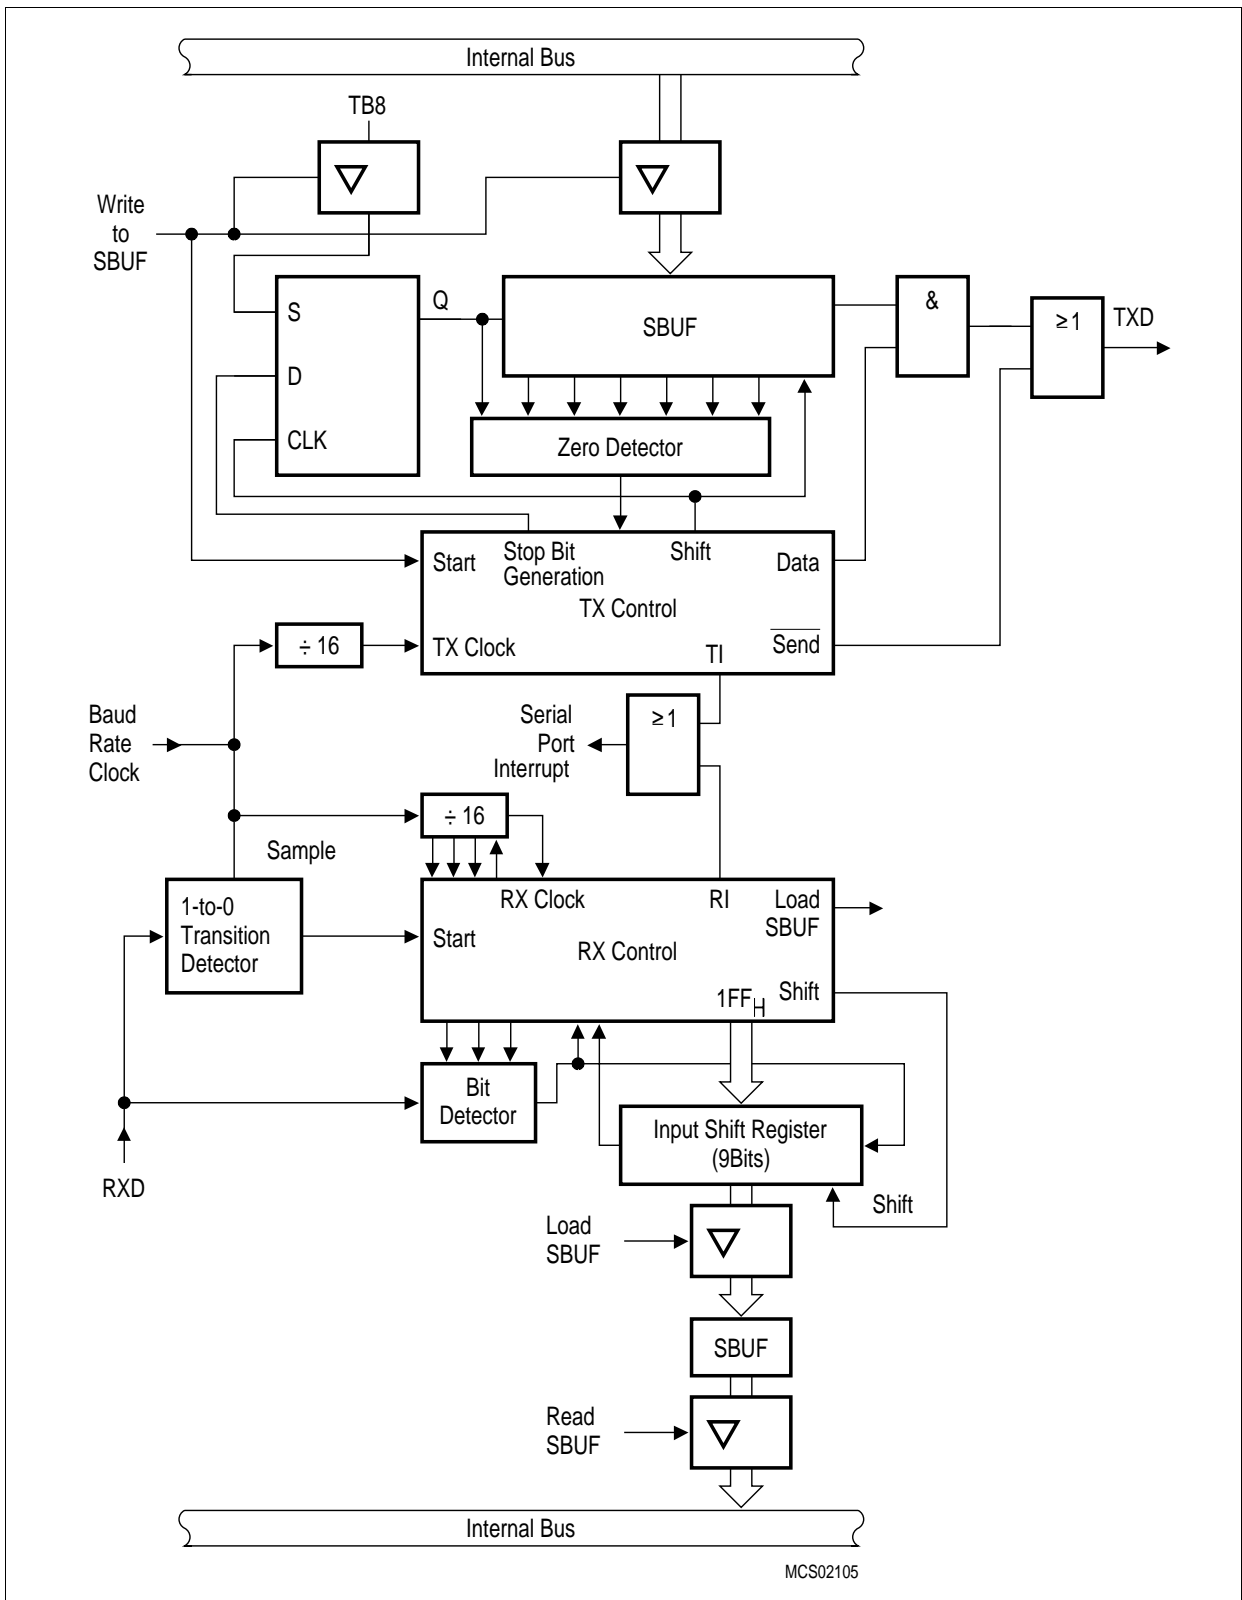
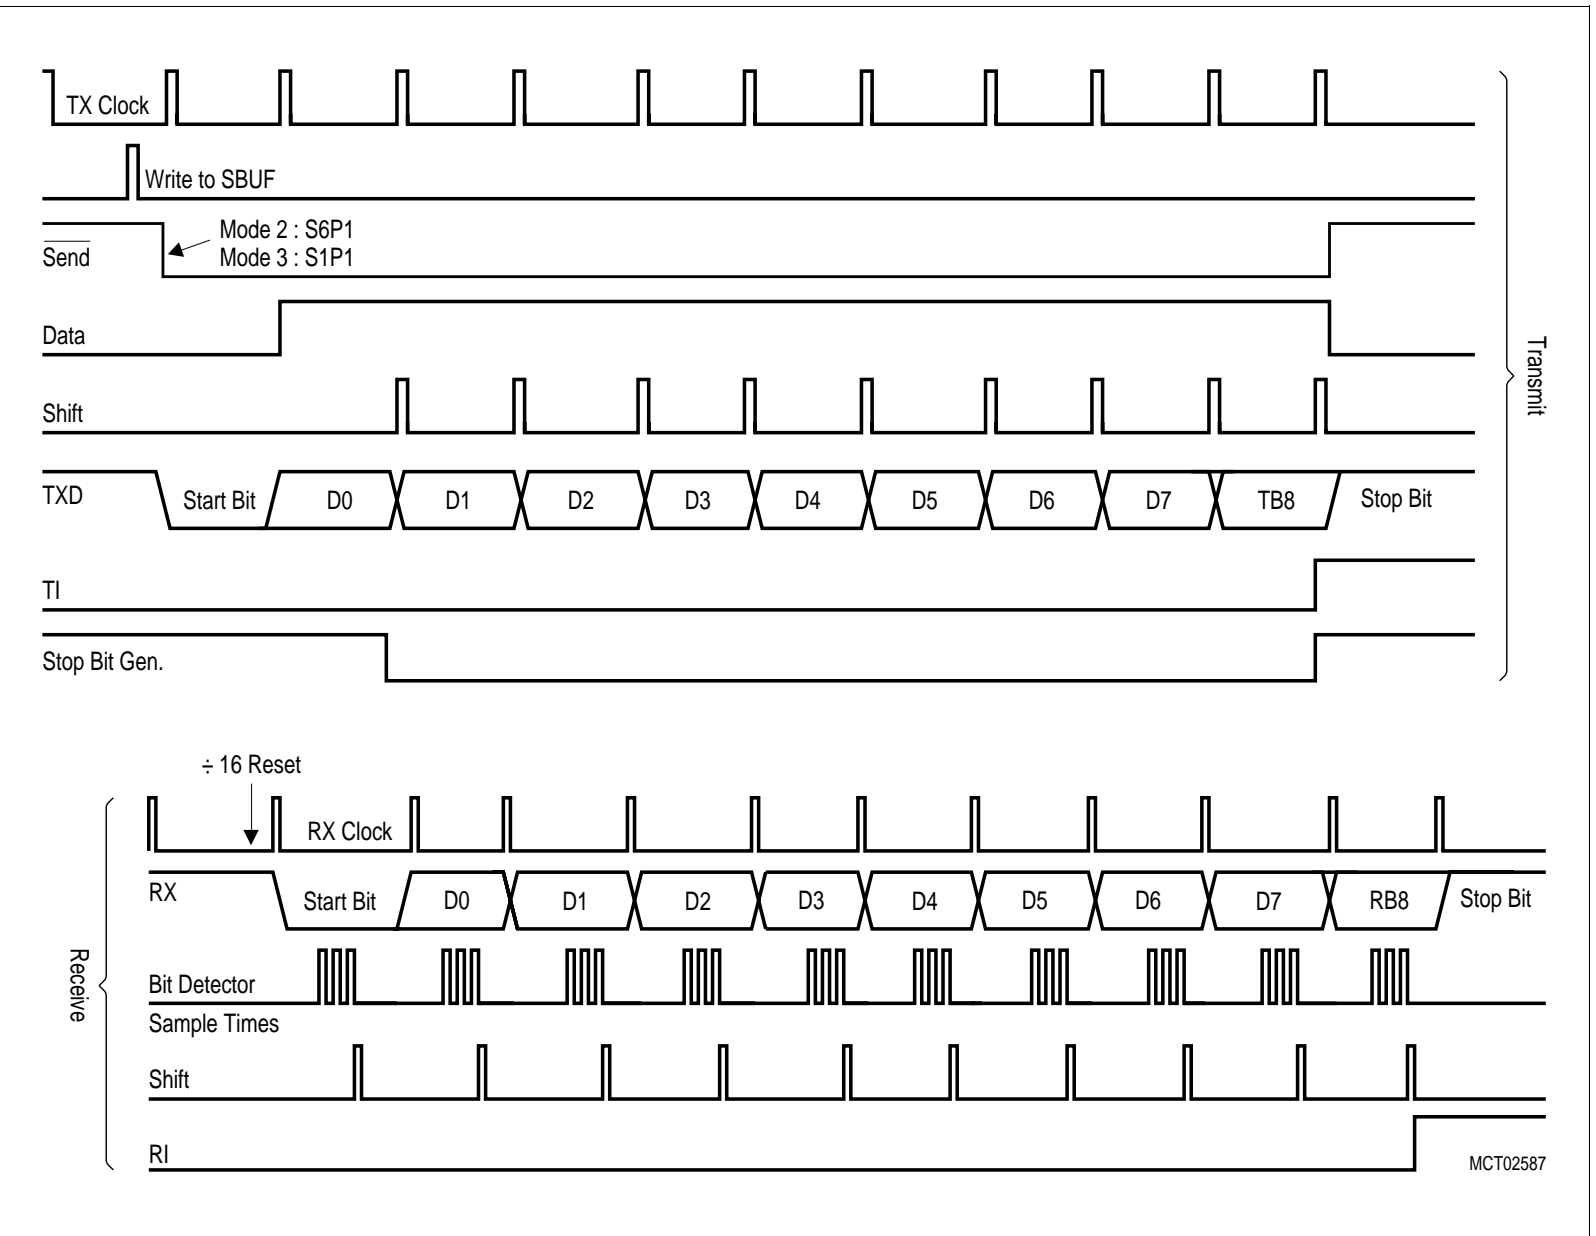

Figure 4-39 Serial Interface, Mode 2 and 3, Functional Diagram
Figure 4-40 Serial Interface, Mode 2 and 3, Timing Diagram
**Figure 4-39** shows a functional diagram of the serial port in modes 2 and 3. The receive portion is exactly the same as in mode 1. The transmit portion differs from mode 1 only in the 9th bit of the transmit shift register. The associated timings for transmit/receive are illustrated in **Figure 4-40**.